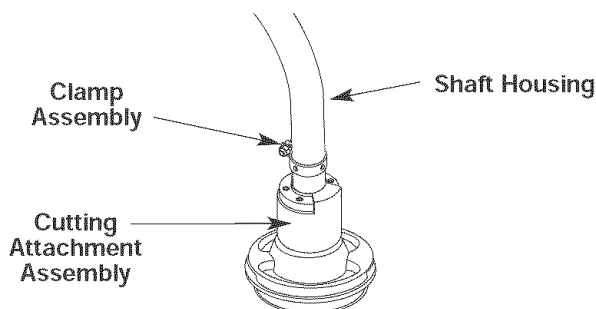

Fig. 2
1. Place the cutting attachment shield onto the shaft housing above the clamp assembly (Fig. 2).